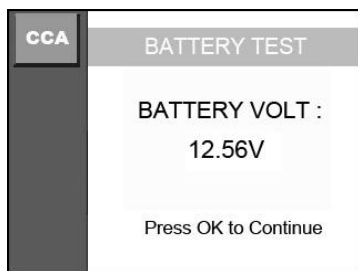

Figure 9.2
4. Use the **UP/ DOWN** scroll button to select **BAT TEST** from main menu, the screen will show as below (Figure 9.2).